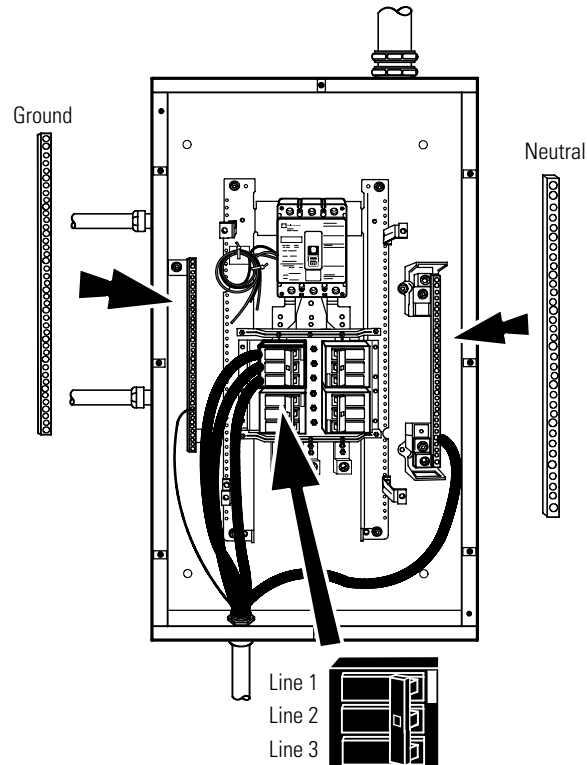

Figure 23. UPS Output to Bypass Cabinet Wiring
14. Hardwire the output terminations from the UPS to the bypass cabinet (see Figure 23).